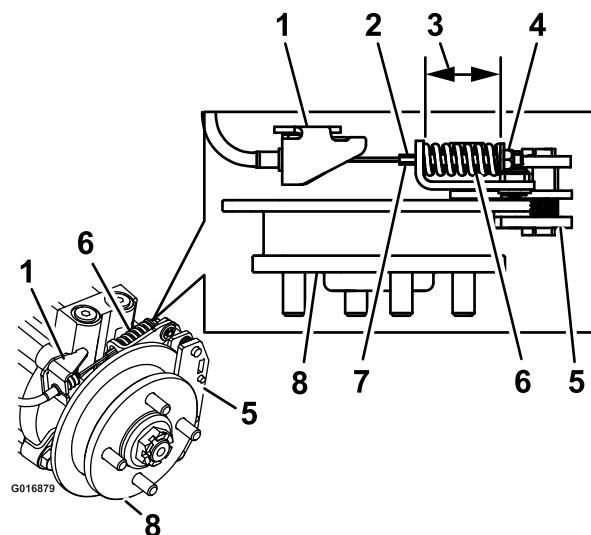

Figure 71
9. Hold the threaded rod end with a tool and adjust the lock nut until the spring length is between 3.8 and 4.0 cm (1-1/2 and 1-9/16 inches) (Figure 71). Do not allow the cable to turn when the nuts are being loosened.